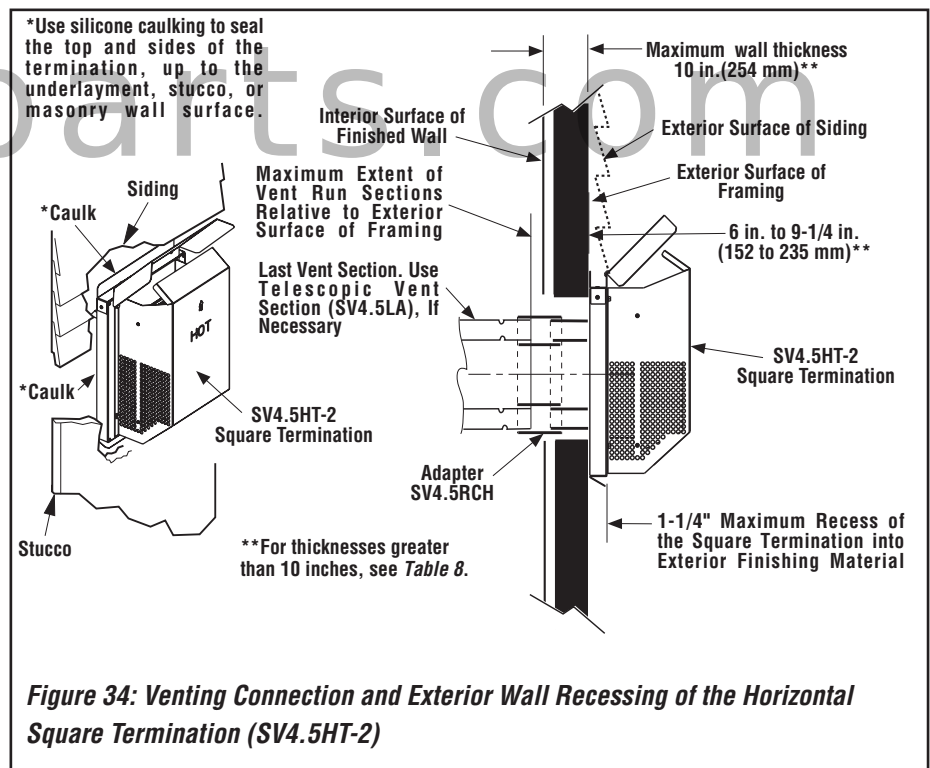

Figure 34: Venting Connection and Exterior Wall Recessing of the Horizontal Square Termination (SV4.5HT-2)
J. Assemble vent run to exterior wall—If not previously measured, locate the center of the vent at the exterior wall. Prepare an opening as described in **Step B**. Assemble the vent system to point where the terminus of the last section is within 7 in. (178 mm) to 11 1/4 in. (286 mm) inboard of the exterior surface to which the SV4.5 HT termination is to be attached, see **Figure 34**. If the terminus of the last section is not within this distance, use the **telescopic vent section SV4.5LA**, as the last vent section. For wall thicknesses greater than that shown in **Figure 34**, refer to **Table 9 on Page 21**. This table lists the additional venting components needed (in addition to the termination and adaptor) for a particular range of wall thicknesses.
1. Install the square termination (SV4.5HT-2 or SV4.5HTSS)—For the last step, from outside the exterior wall, slide the collars of the termination onto the adaptor (the outer over the outer and the inner inside the inner) until the termination seats against the exterior wall surface to which it will be attached. Orient the housing of the termination with the arrow pointed upwards. Secure the termination to the exterior wall. **The horizontal termination must not be recessed into the exterior wall or siding** by more than the 1 1/4 in. (32 mm) as shown in **Figure 34**.
Note: See Figure 34 showing wall thickness range when using SV4.5HT-2 termination kit.